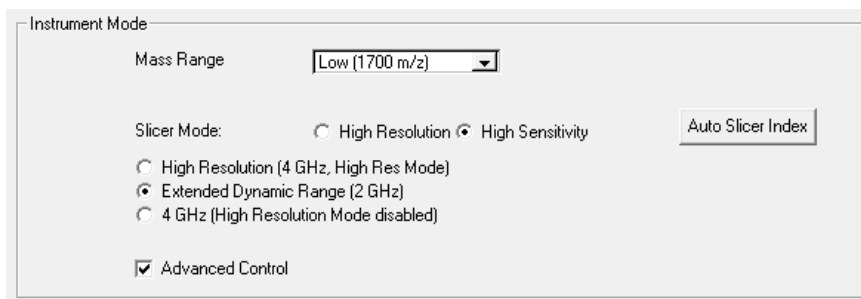

Figure 13. Instrument State tab - Extended Dynamic Range (2 GHz) selected
- 7 Click **Extended Dynamic Range (2 GHz)**. (See **Figure 13**.)